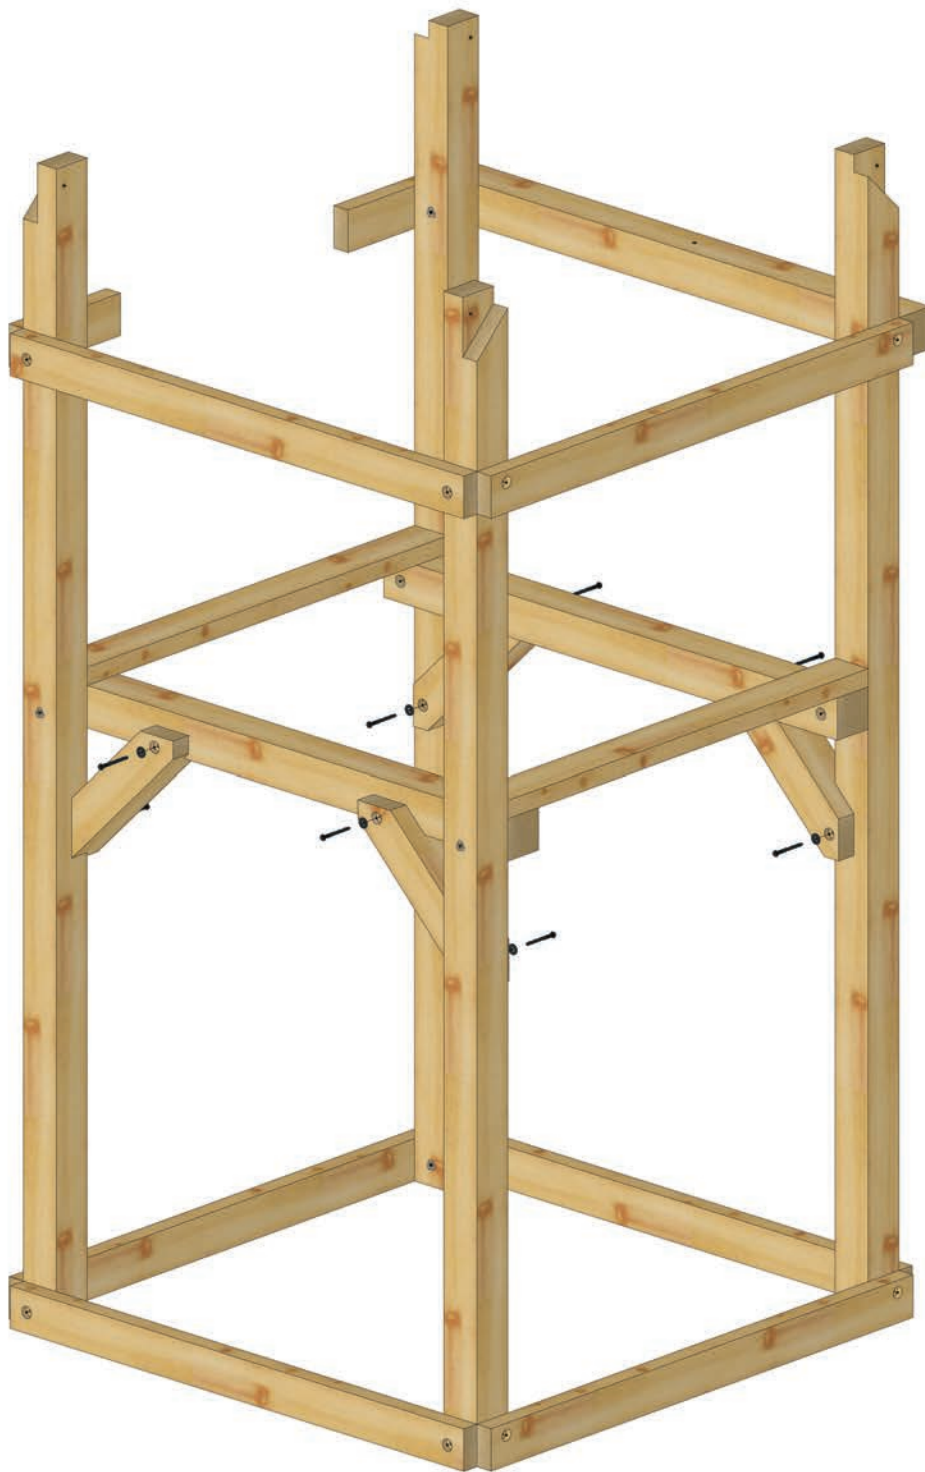

Figure 6.0
6.1 Fasten Slim Sams (4) to Corner Posts and Deck Supports with 5/16 x 3 Lag Bolts with 5/16 washer as shown in Figure 6.0.